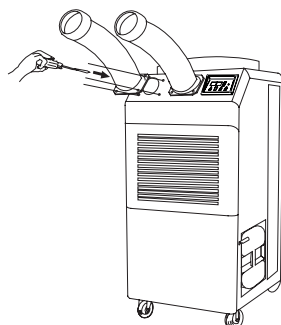

Figure 5
3. Use screws enclosed inside of box with cool air outlet hose(s) to install the cool air outlet hose(s) on the air conditioner as shown in Figure 5.